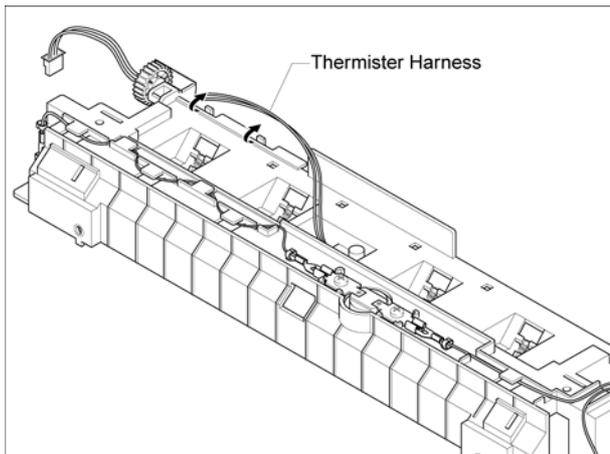

Figure 7
8. Release the Thermistor Harness, Figure 7.